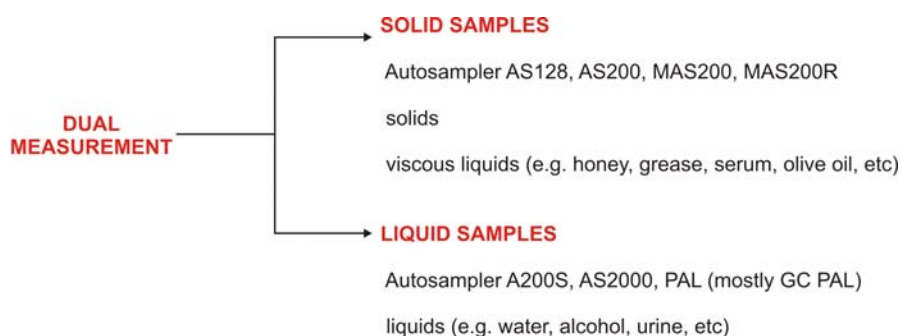
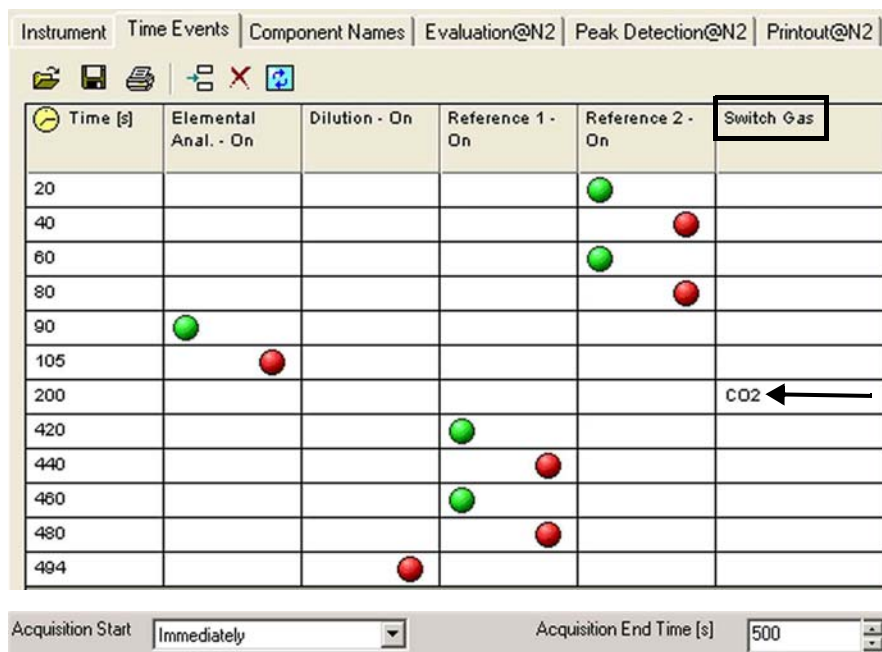

Figure 6-1. Schematic diagram of running solid and liquid samples
Figure 6-10. Dual measurement - Time Events tab
As shown in Figure 6-1, different autosamplers are used to measure different sample types. Concerning the installation of the autosamplers refer to the manuals of the corresponding manufacturers.
Due to the separation of the gases on a GC column, nitrogen appears first. As soon as the nitrogen peak (**3** in Figure 6-1) has been identified, Isodat stops the nitrogen acquisition. The magnet “jumps” to the CO₂ configuration (see Switch Gas column in the time events list of Figure 6-10). A magnet jump means that the magnetic field is changed due to the entries from the mass calibration enabling the system to now collect m/z 44, m/z 45 and m/z 46 in the cups used for N₂ masses before.
1. Double-click on **CO2** in the Switch Gas column to edit. See arrow in Figure 6-10.
For the Ref. Time value in Figure 6-14 (40 s) see the time events list (40 s line of Figure 6-10).
For the Ref. Time value in Figure 6-18 (440 s) see the time events list (440 s line of Figure 6-10).